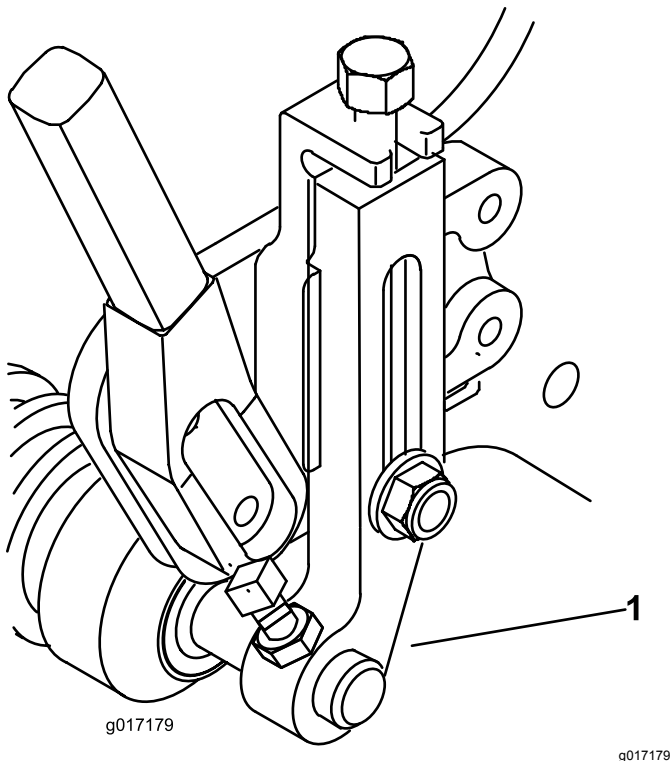

Figure 2
- Greensmaster 1600 mowers—obtain 2 new height-of-cut arms from your Authorized Toro Distributor and install them onto the roller assembly and side plates with the fasteners removed previously (Figure 2).
- Greensmaster 800 and 1000 mowers—rotate the height-of-cut arms you removed previously to the forward position and install them onto the roller assembly and side plates with the fasteners removed previously (Figure 2).